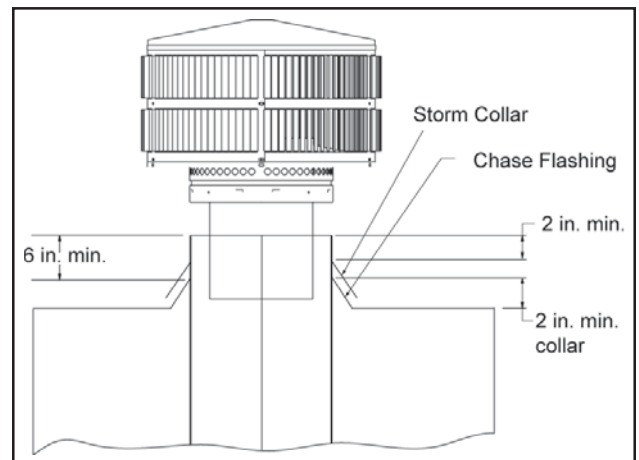

Figure 17 - Installing a TR344 Round Termination Cap
- Install the chimney sections up through the ceiling/roof. When using the TR344 round termination cap, the uppermost section of pipe must extend 6 in. above the roof to allow installation of the storm collar and termination cap. See Figure 17.